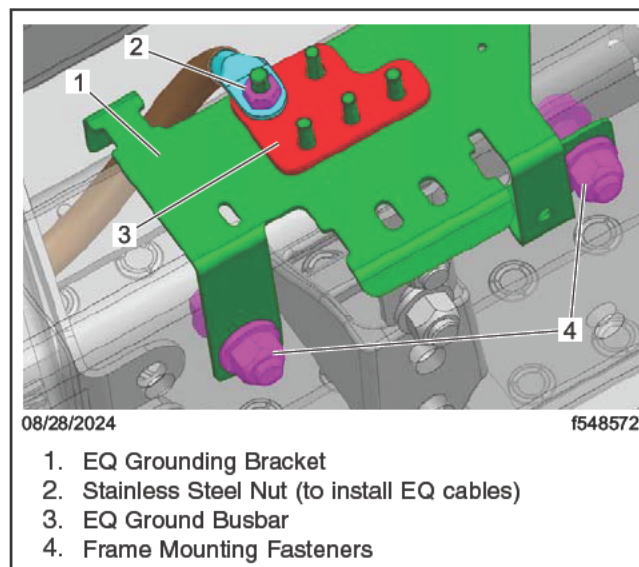

Fig. 4, New EQ Grounding Bracket
18. Install the new EQ grounding bracket (A66-34468-000 and 66-34421-000). See Fig. 4.